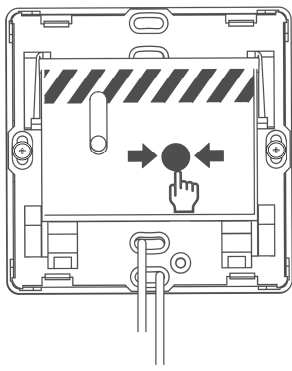
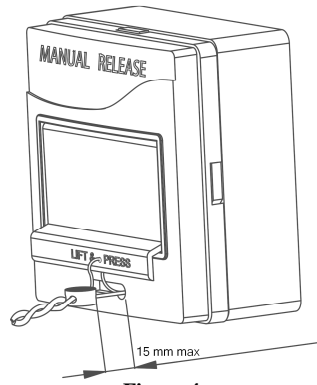

Figure 3
Figure 4
Attach the base (3) with two woodscrews (7) to the wall. Then remove the front cover (1) from the central frame (2) and thread the wire (8) through the two lower holes of the central frame. Next, connect the wires passed within the base to the terminal block on the rear side of the central frame and fasten the last one to the base with two woodscrews (6). The assembled unit appears as shown in Figure 3. Finally, put the front cover on the assembled unit threading the wire ends through the key hole of the first one. One of the wire ends should be passed through the hole in the transparent cover. Run the wire ends through the lead seal, twist the wire ends together placing the twist within the seal, and seal the UDP by special sealing pliers. After sealing the seal should be located not far then 15 mm from the cover as shown in Figure 4 to avoid unauthorized actuation of the UDP without breaking the wire.